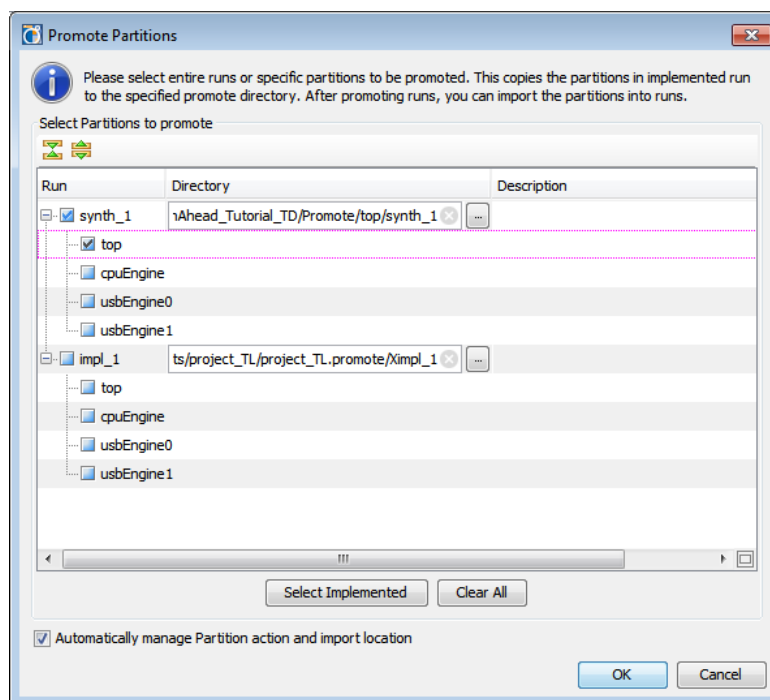

Figure 10: Promote Partitions Dialog Box
8. In the Flow Navigator, under Project Manager, select the Specify Partitions command to open the Specify Partitions dialog box, as shown in Figure 10.